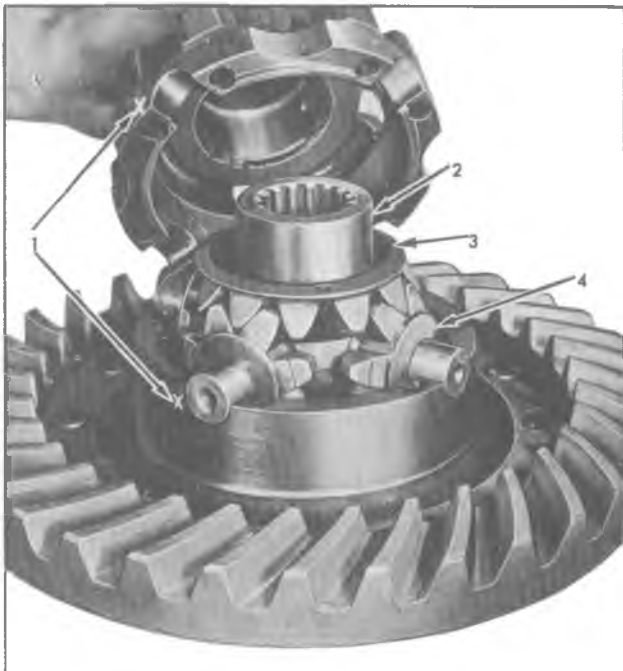
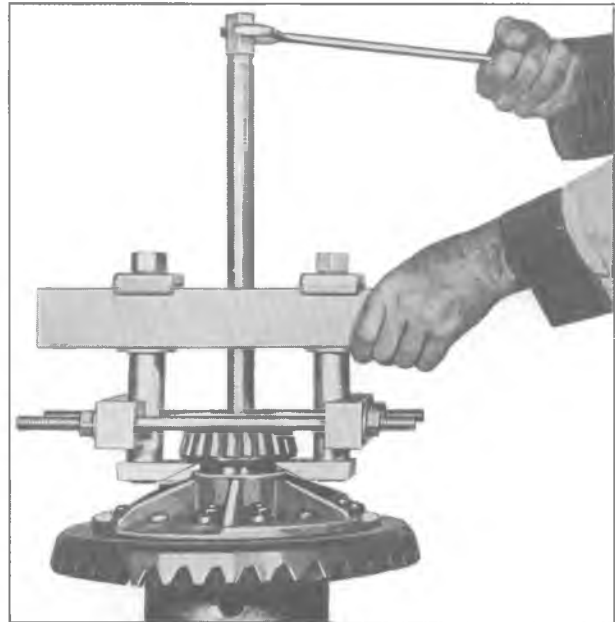

Fig. 88—Removing Differential Case
Fig. 89—Removing Differential Bearing, Using Tool J-3493
2. Cut lock wires, then remove cap screws holding together the two-piece case, and separate case (fig. 88).
3. Remove four pinions (16) and thrust washers (15) from spider (17). Remove differential side gears (14 and 18) and thrust washers (13 and 19) from case.
4. If differential bearings require replacement, use Tool J-3493 in manner shown in Figure 89 to remove bearings.
3. Position new thrust washer (13 and 19) and side gear (14 and 18) in ring gear half of case. Install spider (17) with pinions (16) in position, using all new thrust washers (15). Install remaining side gear and new thrust washer.
4. Install other half of case over assembly. Align mating marks on differential case halves (fig. 88). Install four bolts holding two halves of case together. Draw the two halves together firmly. Check assembly for free rotation of gears; then install remaining bolts. Tighten bolts to correct torque; then install lock wire.